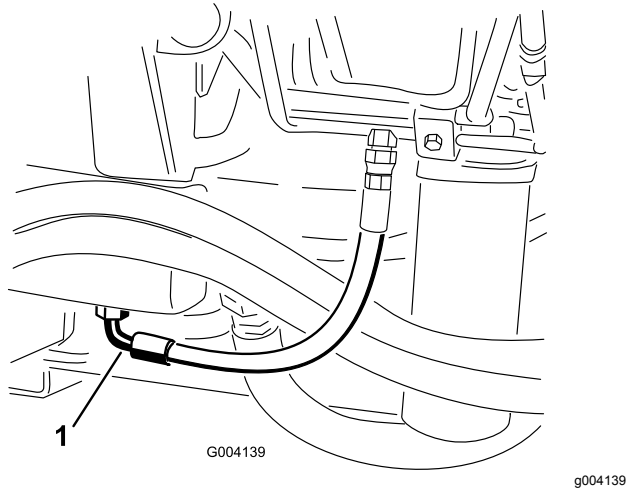

Figure 102
3. Place a large drain pan under the fitting secured to the bottom of the hydraulic-fluid reservoir (Figure 102).